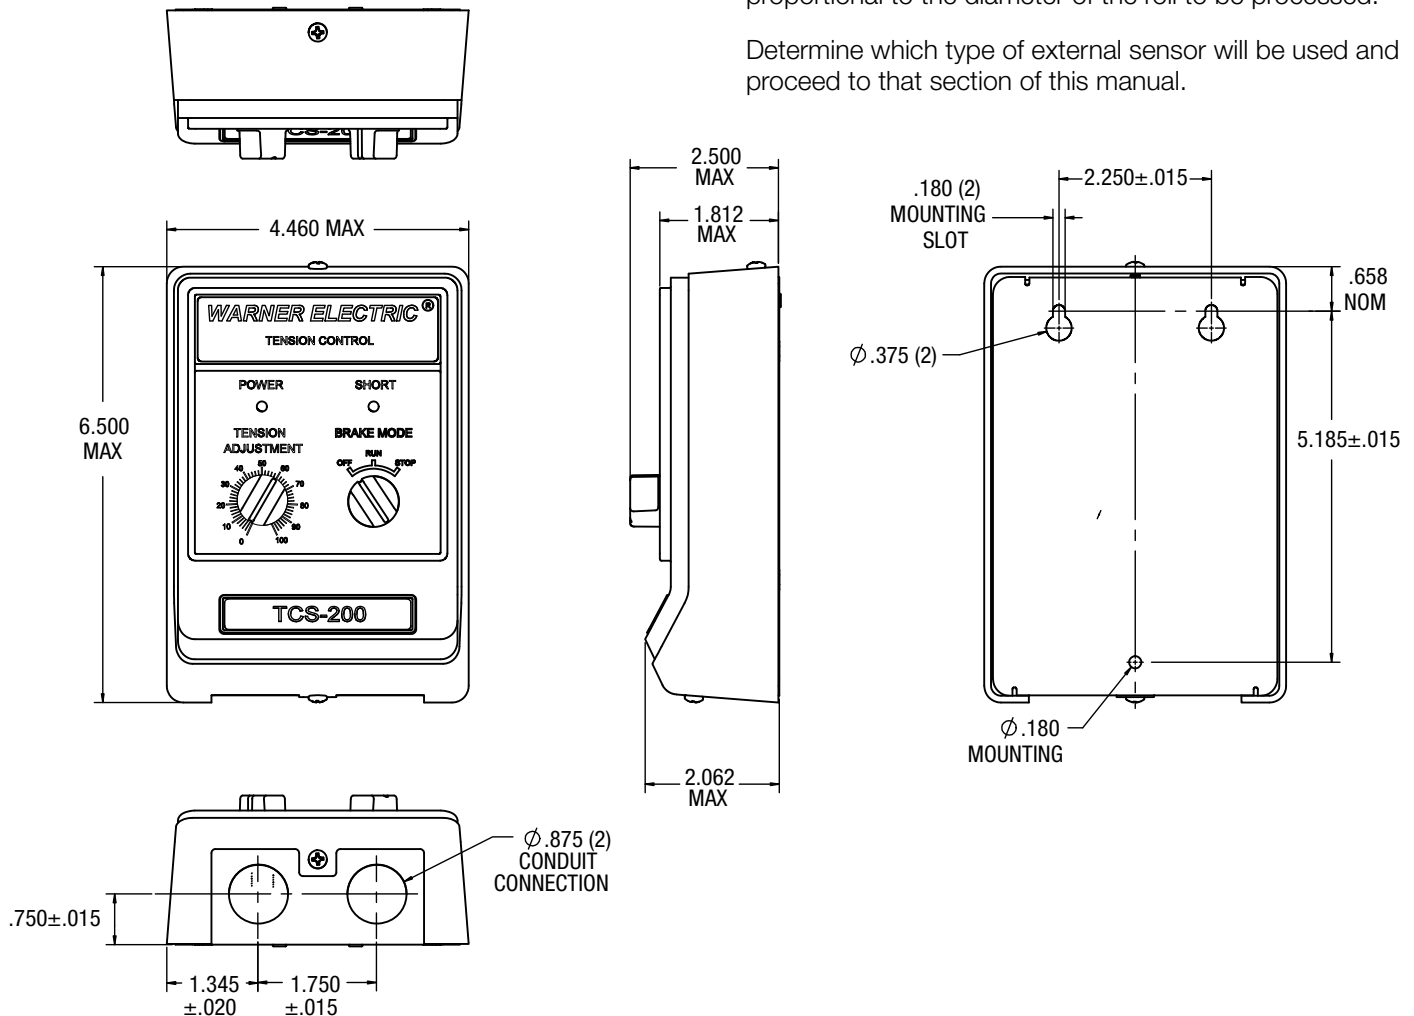

Figure 1
3. Using the dimensional data supplied in Figure 1, drill three mounting holes using a #16 drill if #8 through-bolts are used, or a #29 drill and tap holes for #8 screws.